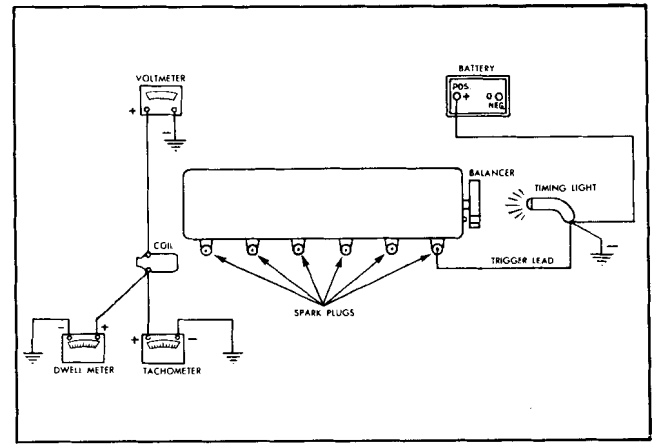

Fig. 6C-2 Schematic of Tune-Up Instrumentation
Follow manufacturer's recommendations for the use of testing equipment. Fig. 6C-2 shows a basic schematic for instrumentation which will apply to many types of test equipment and may be used as a rough guide if equipment manufacturer's instructions are not available.
Connections shown in Fig. 6C-2 are made as follows:
1. Attach a timing light and tachometer as shown in Fig. 6C-1.